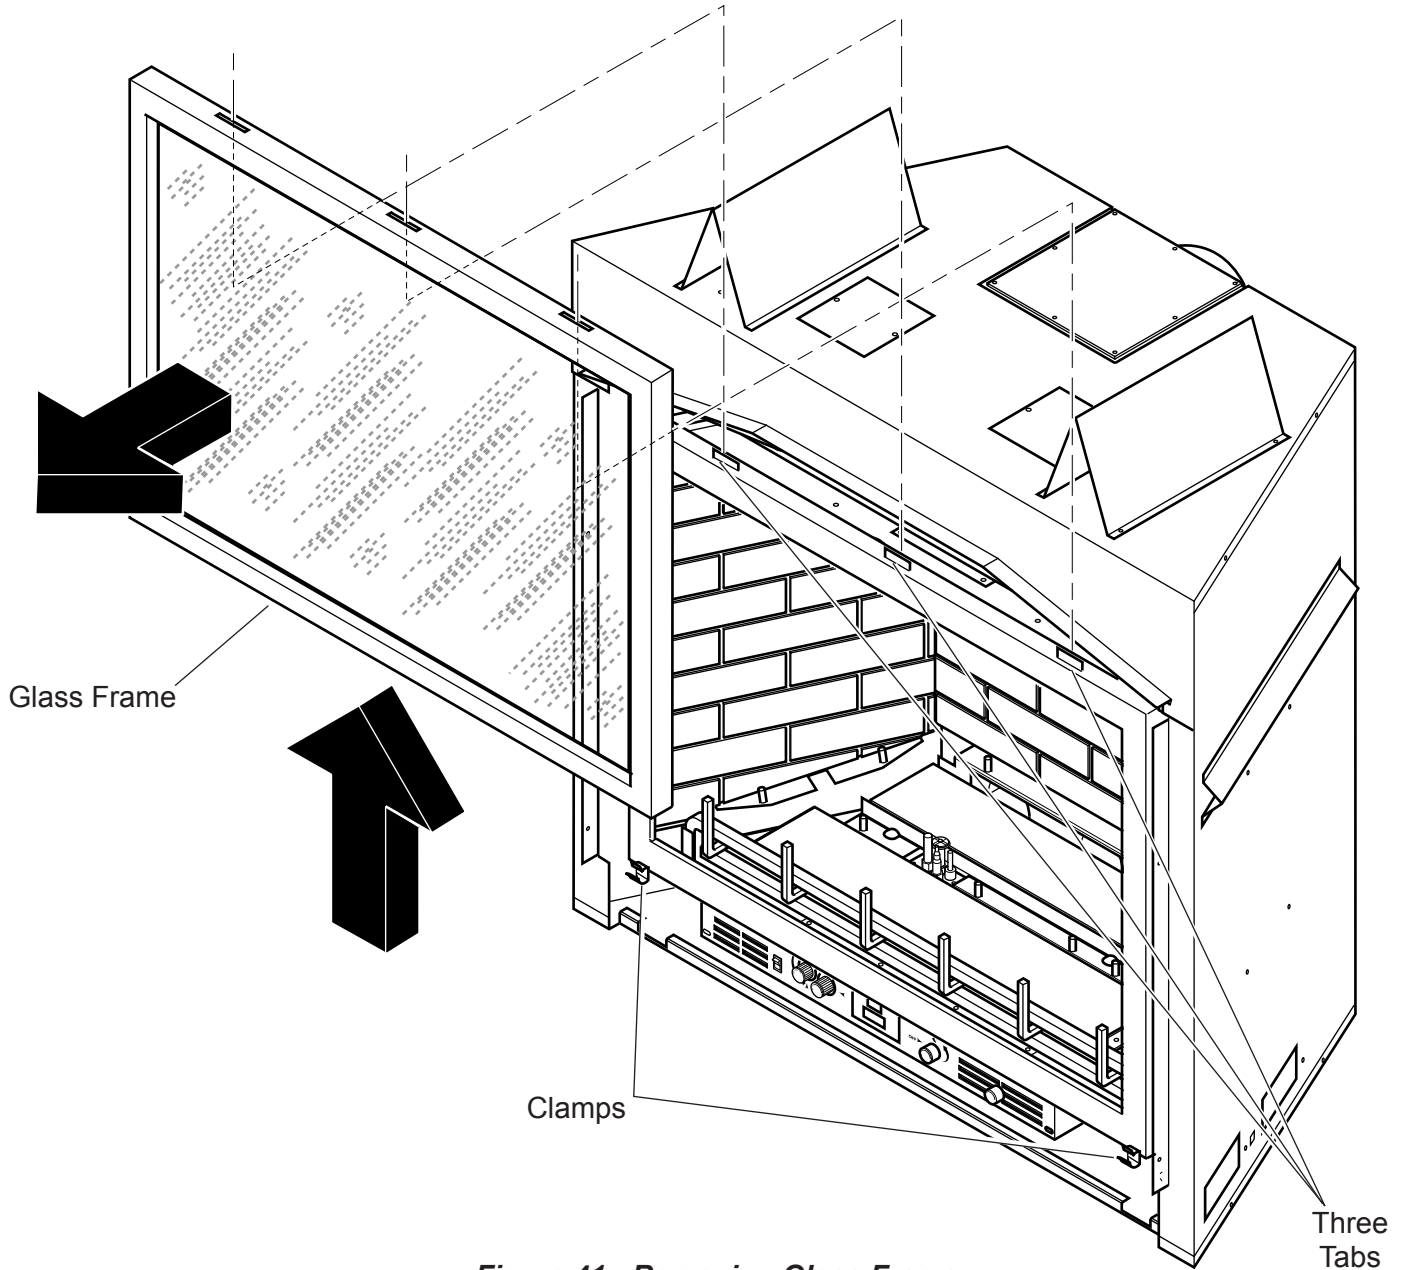

Figure 41 - Removing Glass Frame
1. Release two clamps on bottom of fireplace. *See Figure 41.*